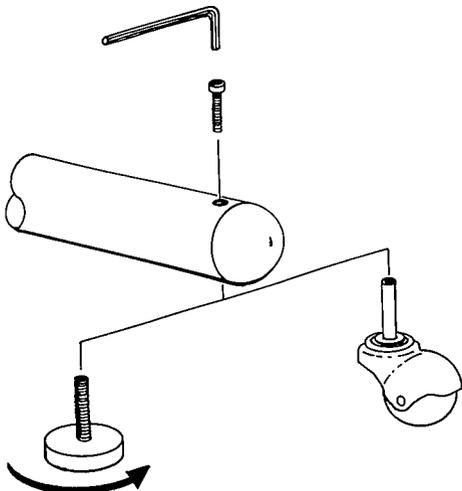

FIGURE 9
6. (Optional) For maximum unit mobility, the casters from the accessory kit may be installed at this time. Use a 5/32-inch hex wrench to remove the foot pads from the frame base; then insert the casters into the same holes and secure them with the capscrews from the foot pads (Figure 9).